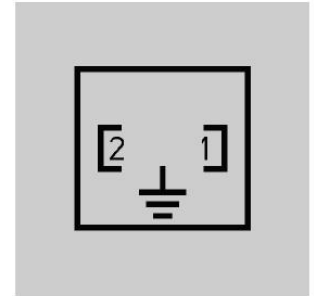

Fig.6.3
3. Connect the wires to the connectors of the electromagnets. (See the pin connection in Fig.6.3)